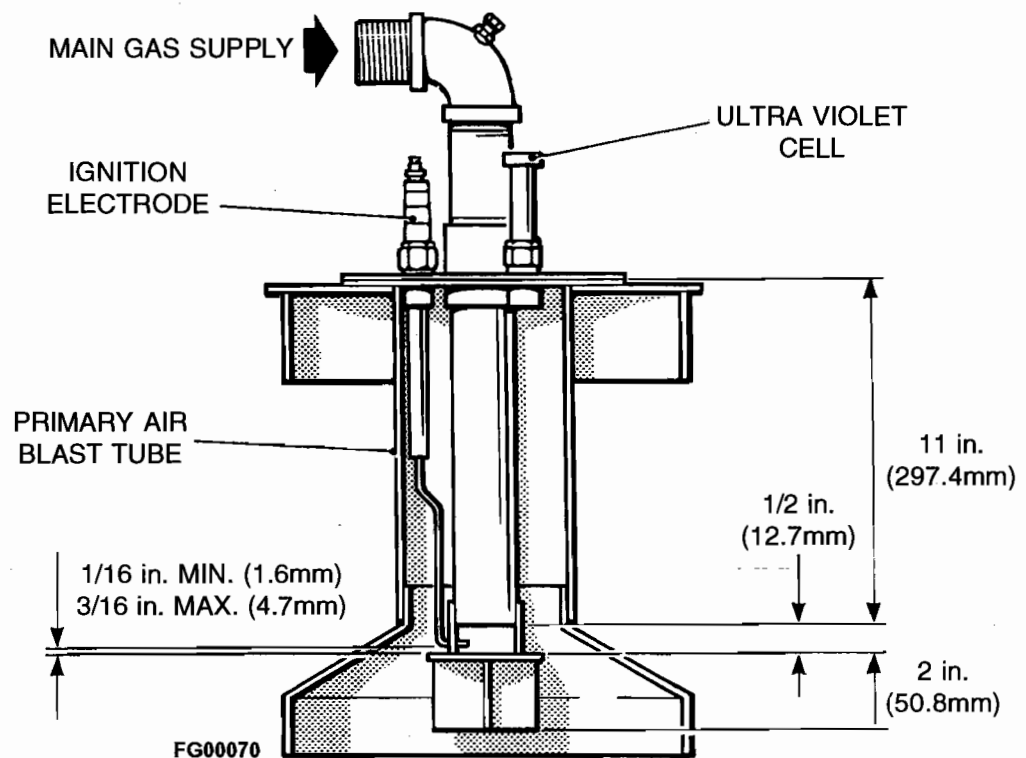

FIG. 6 BURNER ELECTRODE SETTINGS
- (b) Remove the burner and check that the electrodes have not been damaged and that their setting corresponds to the appropriate drawing (refer to **Fig. 6**). If the burner is fitted with an ultra-violet scanner, remove the scanner and check for damage.